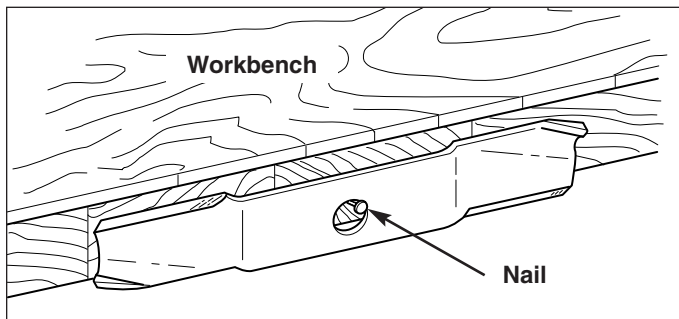

Figure 18. Balancing the Blade
5. Balance the blade as shown in Figure 18. Center the blade's hole on a nail lubricated with a drop of oil. A balanced blade will remain level.